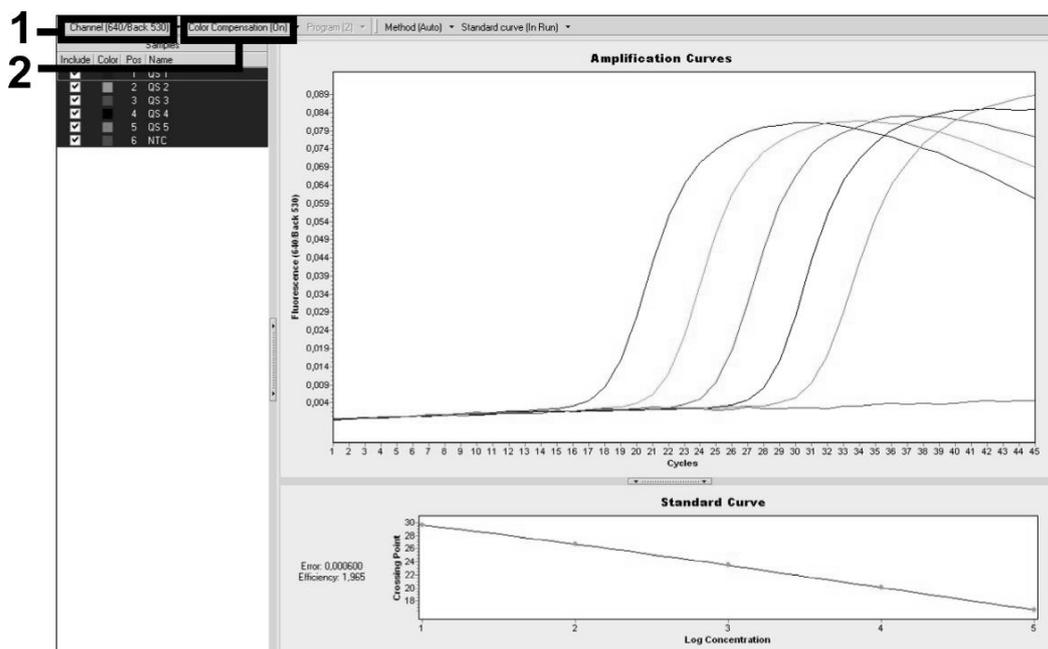

Fig. 12: Activation of the *Color Compensation File* and selection of the fluorescence channel.
For the analysis of PCR data please proceed as follows (see Fig. 12):
- The *LightCycler* Software Version 4.0 contains a file termed *Color Compensation File*, which compensates multicolour analyses interferences between fluorescence channels. Open this file during or after the PCR run by activating the *Color Comp (On/Off)* and then the *Select Color Compensation* button (see Fig. 12). If no *Color Compensation File* is installed, generate the file according to the instructions given in the *LightCycler Operator's Manual*.